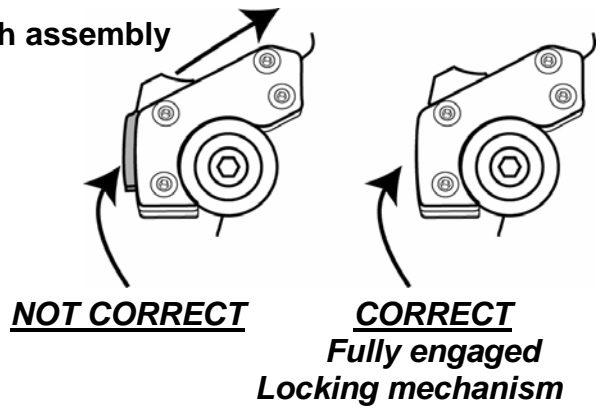

Fig. 3
4. Adjust Fork Clamp Bushings as needed and check for clearance. (Fig. 3) (See warning above.)